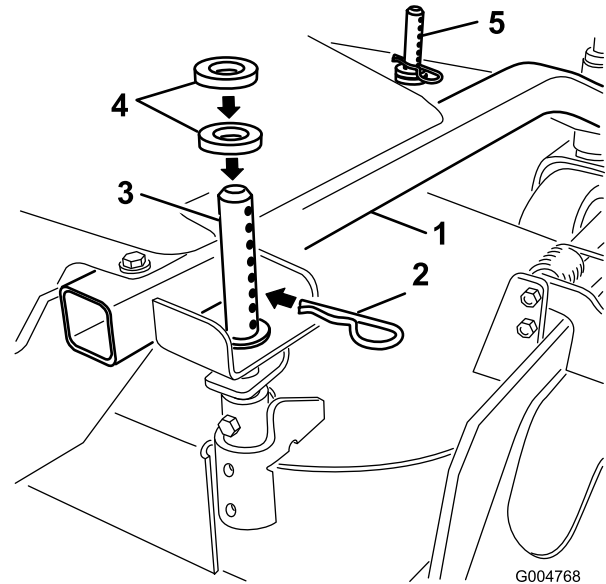

Figure 13
1. Select hole in height-of-cut post and number of spacers corresponding to the height-of-cut desired (Figure 13).
2. Using the lift handle, raise side of deck and remove hairpin cotter (Figure 13).
3. Add or remove spacers if needed and then align holes and insert hairpin cotter (Figure 13).